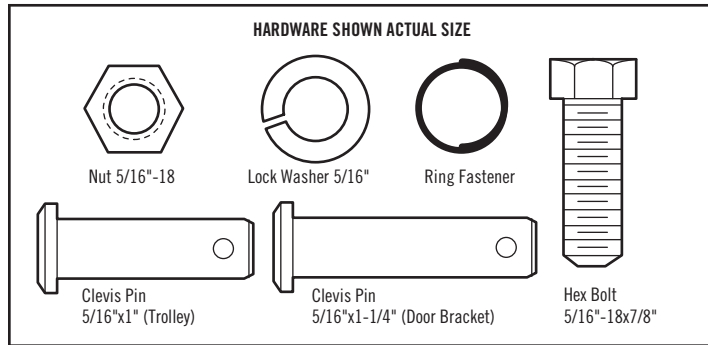

Figure 5
**IMPORTANT:** The groove on the straight door arm **MUST** face away from the curved door arm (Figure 5).
1. Slide a 1/4"-20 x 1/2" carriage bolt head into the slot on each sensor. Use wing nuts to fasten sensors to brackets, with lenses pointing toward each other across the door. Be sure the lens is not obstructed by a bracket extension (Figure 5).